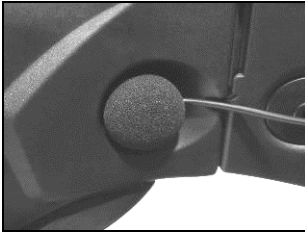

Fig. 16
- Hook up the specific microphone for full-face helmets in its seat in the chin guard (Fig. 16).